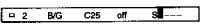

Fig. 23
- Select a letter or number with Δ+ or ∇- and press OK. The next element will be highlighted. Select other characters in the same way. If you want to leave an element blank, select - and press OK. (See Fig. 23.)